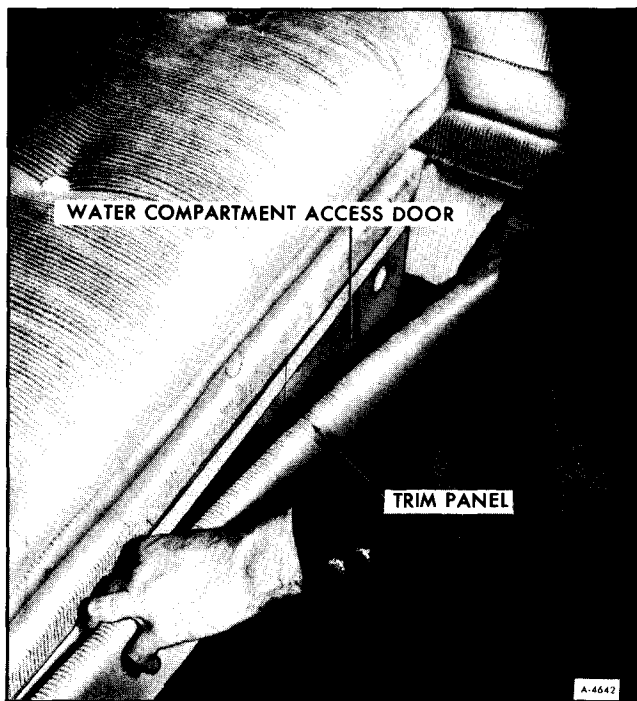

Figure 4—Access to Water Pump and Controls
1. Remove kick panel from lower front of seat. The panel is held by Velcro strips or equivalent, simply pull to remove (figure 4).